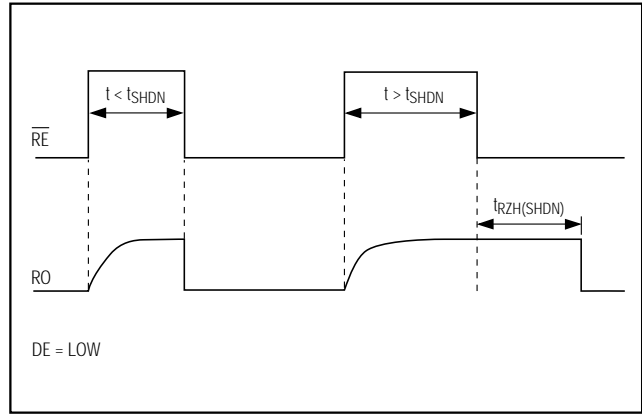

Figure 4. Shutdown Timing Diagram
**Note 7:** Shutdown is enabled by bringing  $\overline{RE}$  high and DE low. If the enable inputs are in this state for less than 50ns, the device is guaranteed not to enter shutdown. If the enable inputs are in this state for at least 500ns, the device is guaranteed to have entered shutdown. Time to shutdown for the device ( $t_{SHDN}$ ) is measured by monitoring R0 as in Figure 4.